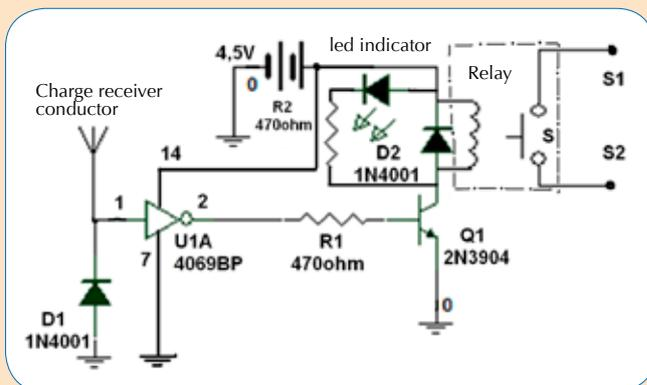
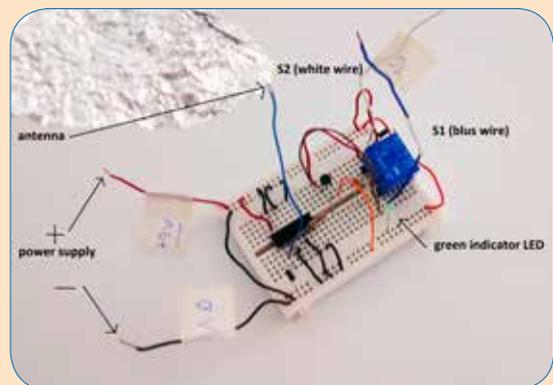

Fig. 11. The diagram of a switch that is triggered by electric charges
Fig. 12. The switch circuit that is activated by the solar wind
1. Construct the circuit in figure 11; the result will look something like figure 12. In this circuit, an optional small piece of aluminium foil has been attached to the wire. This piece of foil plays the role of an antenna (the charge receiver conductor) to increase the sensitivity of the switch.
2. Use two alligator clips to connect the 4.5 V battery (or the power supply) to the corresponding red and black wires (figure 12). The green indicator LED turns on.
To do so, insert the switch circuit (using the wires S_1 and S_2 shown in figure 12) to the transmitter or receiver as in Figures 13 and 14.